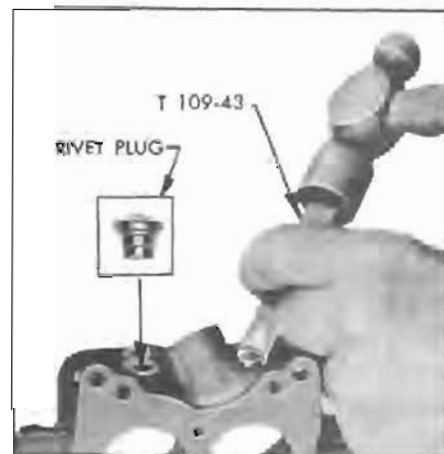

Figure 3-37—Removing Rivet Plug
20. Remove idle adjustment screws and springs from body flange. Remove both idle port rivet plugs, using Rivet Extractor T109-43. See figure 3-37.
8. *Main Body.* If passages in main body appear to be clogged with carbon and gum to such an extent that penetration of cleaning solution is doubtful, remove both nozzle passage rivet plugs using Rivet Extractor T-109-43 (shown in fig. 3-37). *Do not attempt to remove nozzles from main body under any circumstance.*